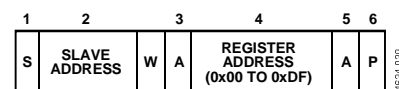

Figure 29. Setting a RAM Address for Subsequent Read
- To write a register address to RAM for a subsequent single byte read from the same address, or a block read or write starting at that address, as shown in Figure 29.